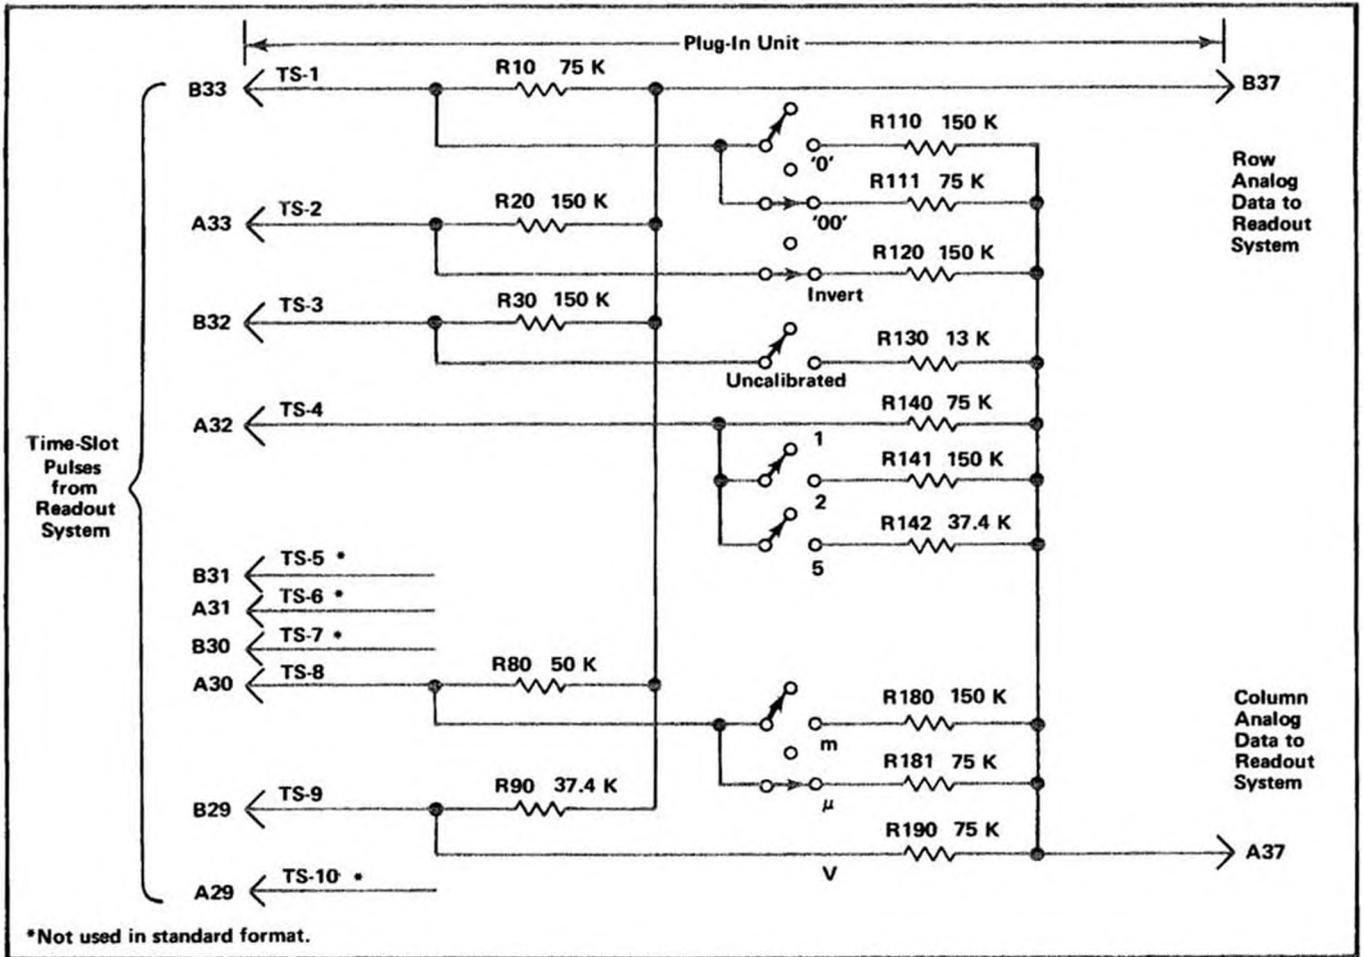

Fig. 3-32. Typical encoding scheme for voltage-sensing amplifier plug-in unit. Coding shown for deflection factor of 100 microvolts.
Data is conveyed from the plug-in units to the Readout System in the form of an analog code having up to 11 current levels (from zero to one milliamperere in 100 microampere steps). The characters which can be selected by the encoded data are shown on the Character Selection Matrix (see Fig. 3-25). Each character requires two currents to define it; these currents are identified as the column current and the row current which correspond to the column and row of the matrix. The column and row data is encoded by resistive programming in the plug-in units. Fig. 3-32 shows a typical encoding scheme for a voltage-sensing amplifier plug-in unit. Notice that the 10 time-slot (TS) pulses produced by the Time-Slot Counter stage are connected to the plug-in unit. However, time-slots 5, 6, 7, and 10 are not used by the plug-in unit to encode data when using the Standard Readout Format (see Table 3-2 for Standard Readout Format). The amplitude of the time-slot pulses is exactly  $-15$  volts as determined by the Timer stage. Therefore, the resultant output current from the plug-in units can be accurately controlled by the programming resistors in the plug-in units.
For example, in Fig. 3-32, resistors R10 through R90 control the row analog data which is connected back to the Readout System. These resistors are of fixed value and define the format in which the information will be presented by the Readout System. Fig. 3-33A shows an idealized output current waveform of row analog data which results from the 10 time-slot pulses. Each of the steps of current shown in these waveforms corresponds to 100 microamperes of current. The row numbers on the left-hand side of the waveform correspond to the rows in the Character Selection Matrix shown in Fig. 3-35. The row analog data is connected back to the Readout System via terminal B37 of the plug-in interface.
The Column analog data is defined by resistors R110 through R190. The program resistors are connected to the time-slot lines by switch closures to encode the desired data. The data as encoded by the circuit shown in Fig. 3-32 indicates a 100 microvolt sensitivity with the display inverted and calibrated vertical deflection factors. This results in the idealized output current waveforms shown in Fig. 3-33B at the column analog data output, terminal A37 of the plug-in interface. Resistor R111, connected between time-slot 1 and the column analog data output, encodes two units of current during time-slot 1. Referring to the
connectors of vertical plug-in units. A special coding ring around the input connector of the plug-in unit senses the attenuation ratio of the probe (with readout-coded probes only). The probe contains a resistor which results in additional column current. For example, if a 10X attenuator probe is connected to a plug-in with the coding for 100 microvolts as shown in Fig. 3-32, an additional unit of current is added to the column analog data during time-slot 1. Since two units of current were encoded by R111 (see Fig. 3-32), this additional current results in a total of three units of column analog current during this time-slot. Referring to the Character Selection Matrix, three units of column current along with the two units of row current encoded by R10 indicates that the prefix should be reduced. Since this instruction occurs in the same time-slot which previously indicated that two zeros should be added to the display and only one instruction can be encoded during a time-slot, the zeros do not appear in the display. The CRT readout will now be changed to 1 mV (readout) program produced by plug-in same as for previous example.